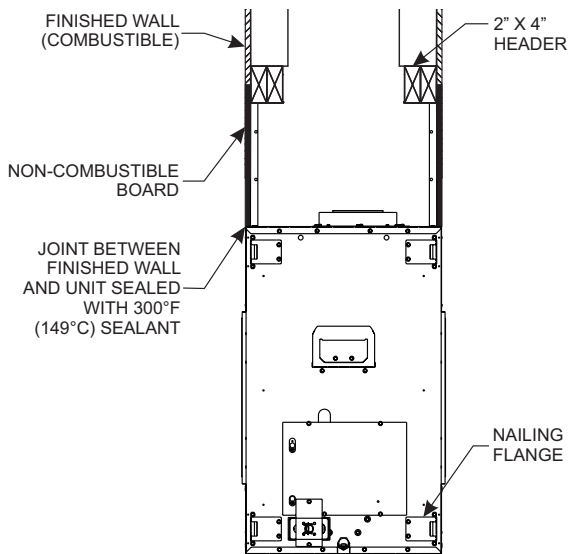

Figure 30
- Non-Combustible board installed flush to face (framing brackets at 1/2 or 3/4 inch set back). **See Figures 30 and 31.**